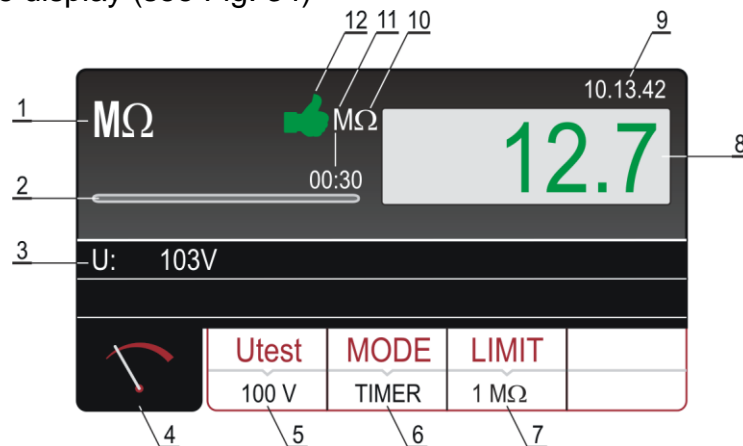

Fig. 34 : Visualization of MΩ test result
7. Press the **START/STOP** key to perform the measurement. The test result is shown on the display (see Fig. 34)